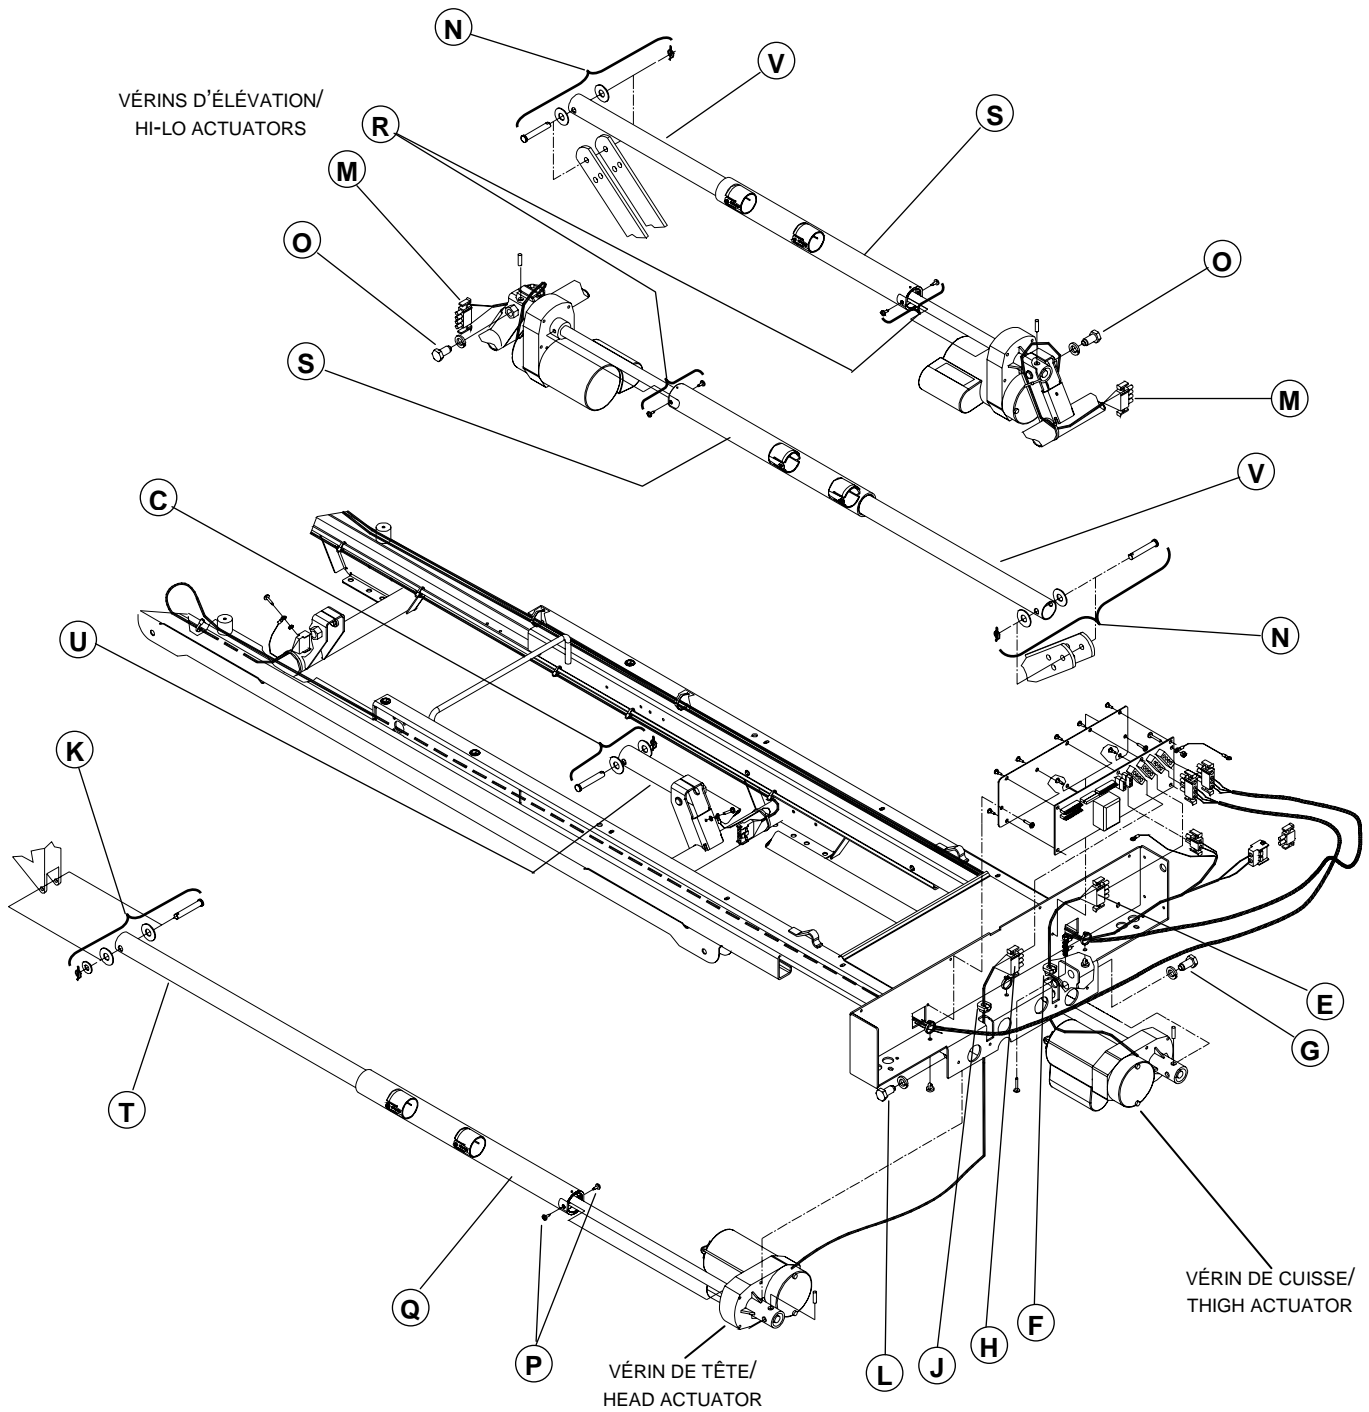

Figure 4.10
4. Using needle nose pliers, remove the Rue ring/nylon washers(2)/clevis pin (C, fig. 4.10, page 50) hooking up the thigh actuator tube (U, fig. 4.10, page 50) to the thigh section lever arm.
4. Using a Phillips screwdriver, remove the two lateral mattress retainers (A) and save them for the replacement head section.
6. Using needle nose pliers, remove the Rue ring/nylon washers(3)/clevis pin (K, fig. 4.10, page 50) hooking up the head actuator tube (T, fig. 4.10, page 50) to the head section lever arms.
Unless otherwise stated, all reference points contained in section 4.10 procedures refer to figure 4.10 above.
All reference points contained in this procedure refer to fig. 4.10 on page 50.
5. Using a slotted screwdriver and a 5/16" wrench, remove the two screws (P) holding the plastic dust tube of the Knee Gatch actuator and the head actuator tube support (Q) (the two screws and the dust tube of the Knee Gatch actuator are not illustrated on fig. 4.10) and slide back the dust cover and the actuator tube support to uncover the actuator screws and the beginning of the actuator tubes.